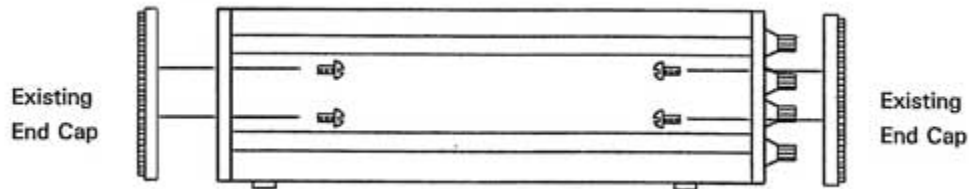

Figure 6-2 Removing End Caps
1. Remove the existing front and rear end caps from the Model PRT73 as shown in Figure 6-2.